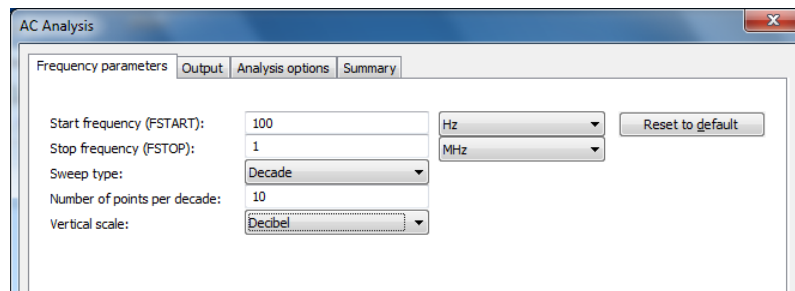
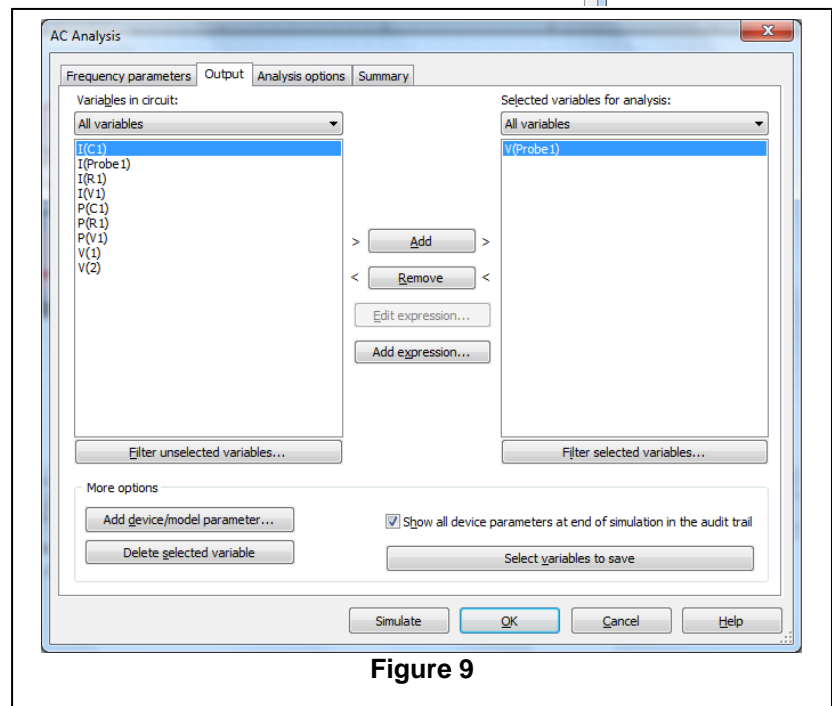

Figure 8
Figure 9
- A frequency domain simulation provides data about the frequency response of the circuit. First the analysis options must be set, so start from the Multisim main menu and select **Simulate > Analyses > AC Analysis > Frequency parameters**. This should open a dialog box as shown in figure 8. Set **Start frequency: 100 Hz, Stop frequency 1 MHz, sweep type Decade, number of points per decade: 10, Vertical scale: Decibel** as shown. Then click on the **Output** tab of the same dialog box as shown in **Figure 9**.
Click **V(probe1)** to select it then **> Add >** to move it to the list on the right. When you have done this, it should look like Figure 9.